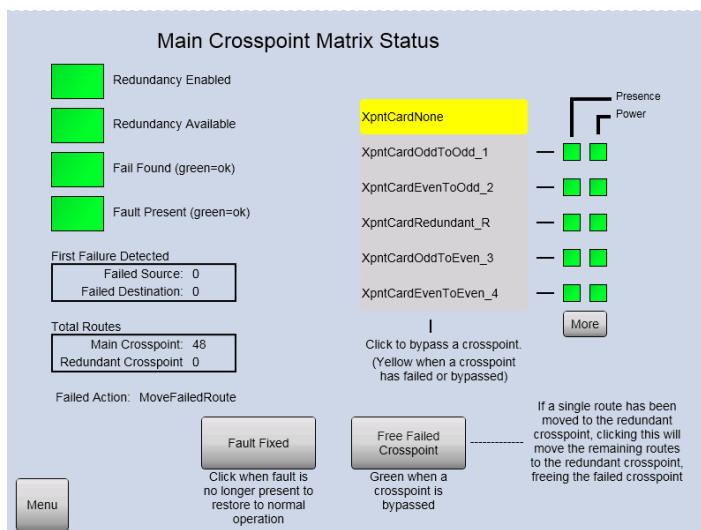

Figure 51 Sirius 840/850 Crosspoint Matrix Status and Crosspoint Switching
- **Sirius 840/850** - see Figure 51 on page 80 for button and parameter locations.